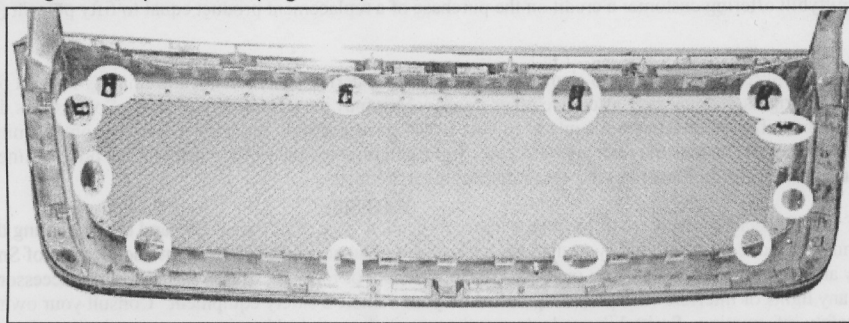

Figure 3 – Rear view of vehicle's shell; Grills attached with Metal Brackets and Flange Nuts
9. Attach the Grille to the shell by inserting the screws through the tabs of L Brackets and holes on the shell; secure them with Flange Nuts provided (Figure 3).